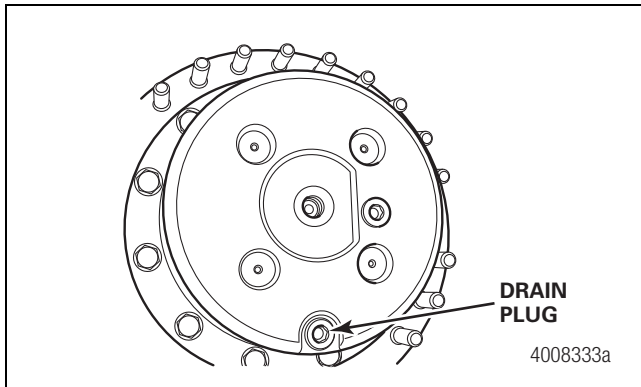

Figure 10.1
5. Place a drain pan under the hub drain plug. Rotate the wheel end so the drain plug is at its lowest position. Remove the drain plug and allow the hub oil to drain completely from the wheel end. Figure 10.1.